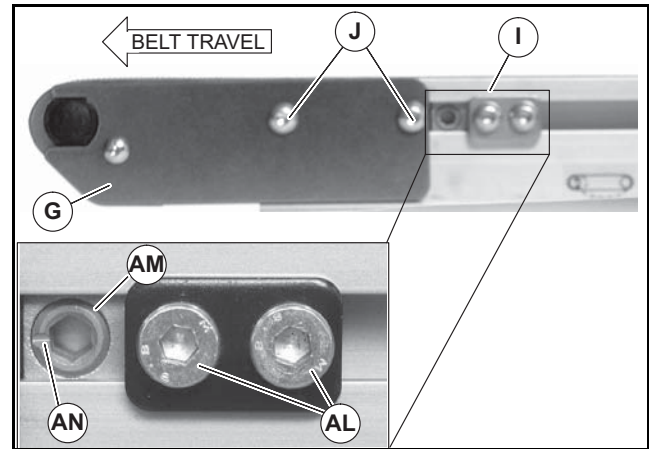

Figure 16
6. While holding pinion (AJ) in tensioned position, tighten cover plate screws (J) on both sides of conveyor. Torque screws to 18 in/lb (2 Nm).
7. Position belt tracking cam against the slide bar while making sure groove is correctly oriented. See Figure 16, below.
Non V-guided belt conveyors are equipped with belt tracking cam assemblies (Figure 16, item I) for belt tracking adjustment.
1. Ensure tail cover plate screws (Figure 16, item J) on both sides of conveyor are tight.
2. On both sides of conveyor, loosen two cam fastening screws (AL). Adjust cams (AM) until indicator slots (AN) are horizontal and facing end of conveyor. Then slide cam assemblies against head plates (G) and re-tighten cam fastening screws (AL) to 60 in-lb (7 Nm).
3. On the side toward which the belt is tracking, loosen head plate fastening screws (J).
4. With conveyor running, use a 5 mm hex-key wrench to rotate tracking cam (AM) in small increments until belt tracks in center of conveyor. Then while holding cam in position, tighten head plate fastening screws (J) to 60 in-lb (7 Nm).